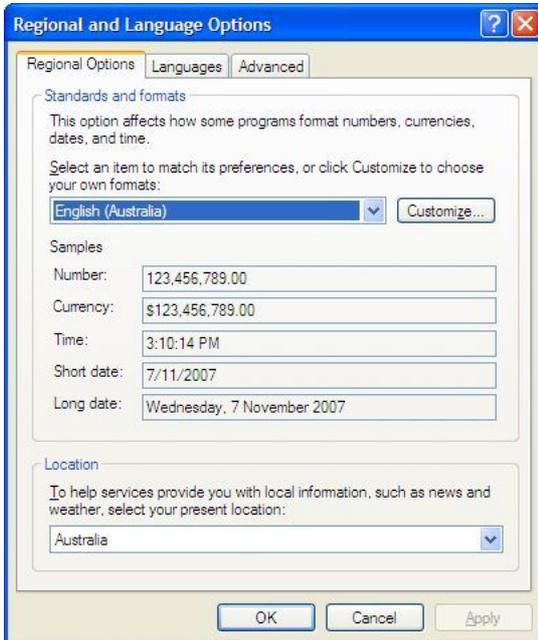

Figure 35 – Regional settings
3. Select “Serial Port” and the COM Port on the computer from those listed on the Firmware Update screen as shown in Figure 35.